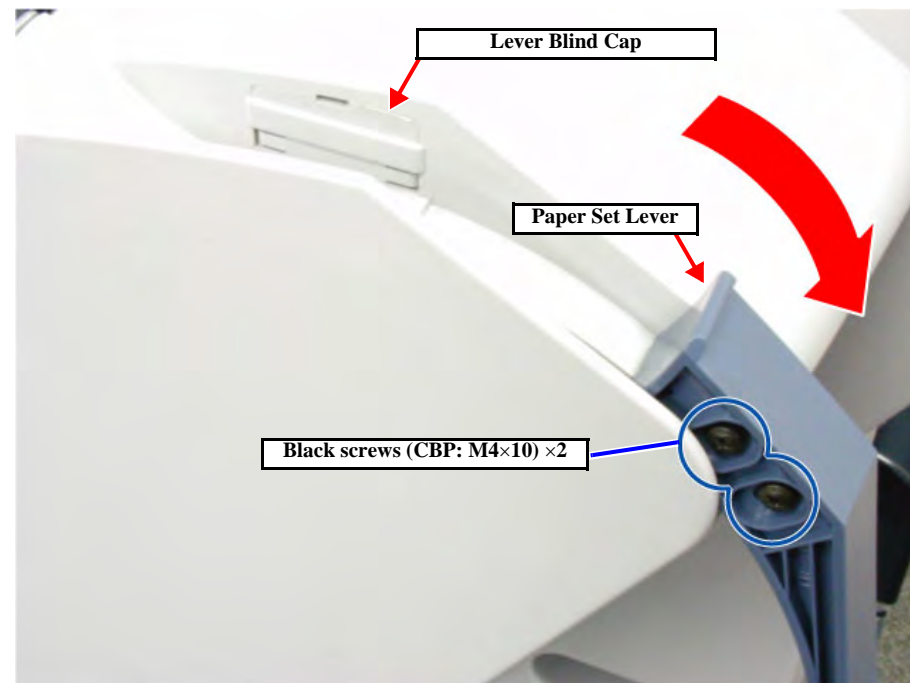

Figure 4-6. R Side Cover Removal 1/5
2. Push back the Paper Set Lever to the released position. (See Figure 4-6)